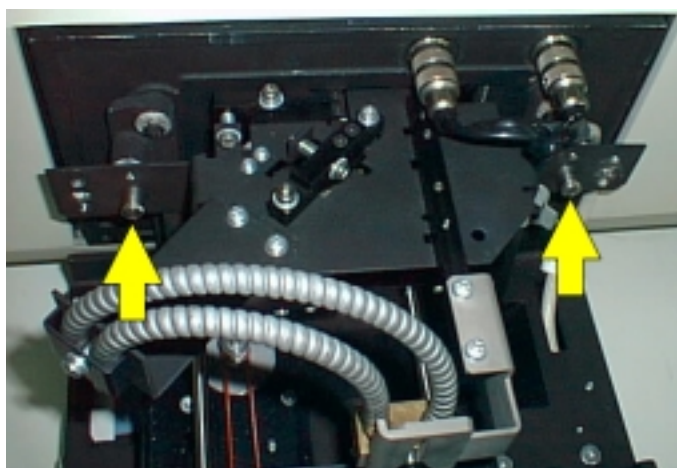

Figure 64 Optical assembly screws
5. Unscrew the two fixing screws and remove the optical assembly, as shown in Figure 64.